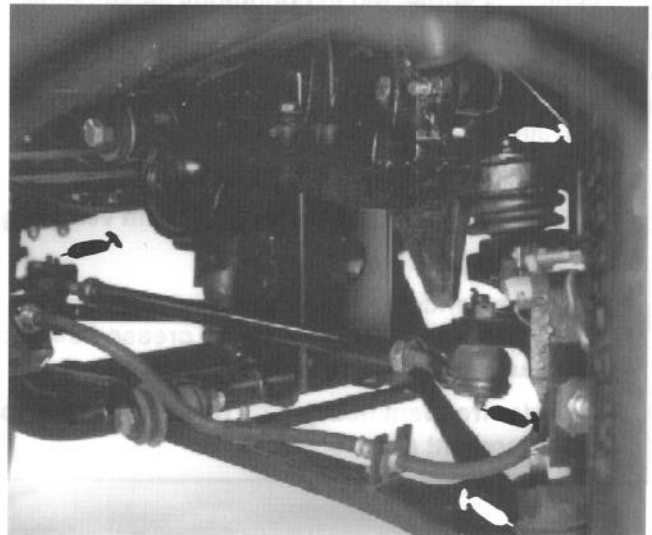

Figure 24
(Fig. 24–28)
The grease fitting locations and quantities are: Tie rod ends (4) (Fig. 24), Front ball joints (4) (Fig. 24), Rear drive shafts (18) (Fig. 25), Steering shaft (1) (Fig. 26), Front pivot bushings (2) (Fig. 27) and Governor Lever (1) (Fig. 28).